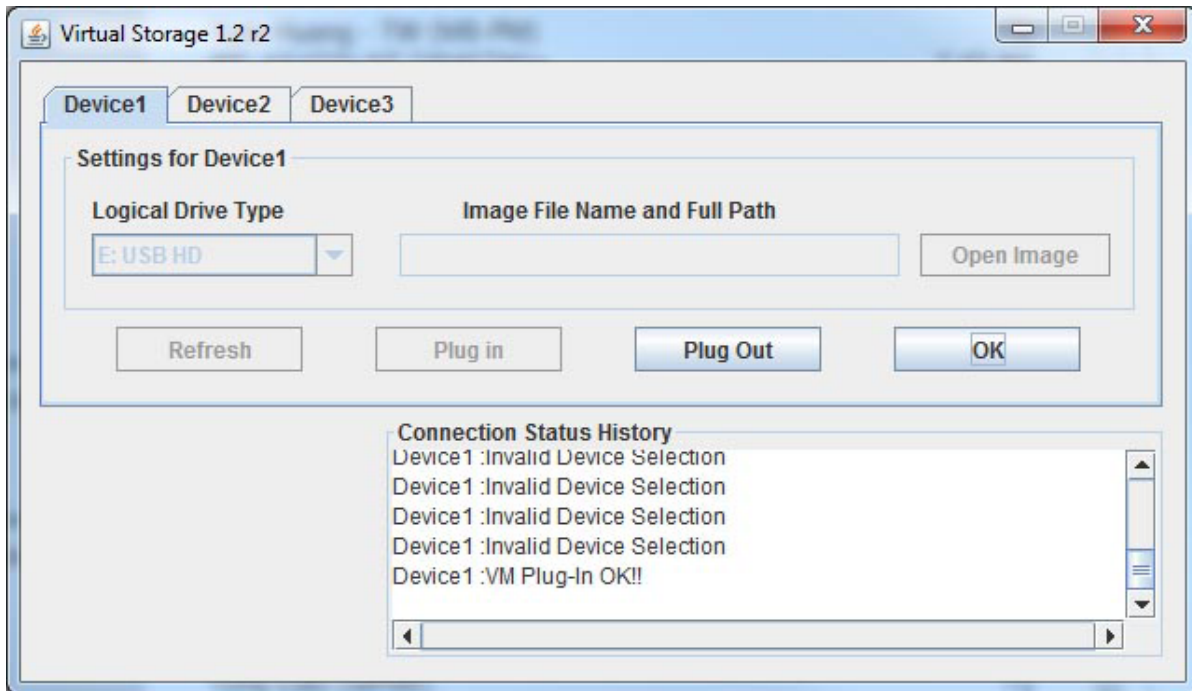

Figure A-9. Pressing the Plug In and OK Buttons for an USB Flash Drive File
- After you have selected the USB flash drive file, press the Plug In button, then the OK button to exit the Virtual Storage window (Figure A-9).